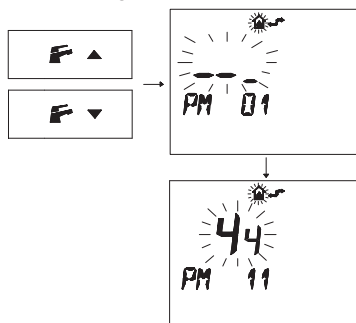

Fig. 8.20
- Press buttons **F**▲ or **F**▲ to display the **"PM11"** program of the pump post-circulation (Fig. 8.20).